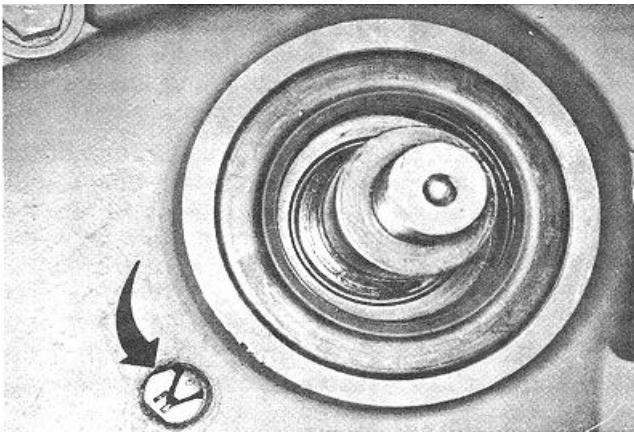

Fig. 14-45 (N114143). The Timing Marks For The Accessory Drive.
**Note:** The pipe plug in the gear cover can be removed so that you can see the timing marks on the gears. Make sure that the timing marks are aligned, Fig. 14-45. If the pipe plug has been removed, install the plug. Tighten the pipe plug to 35 to 45 ft.-lbs. [47 to 61 N•m] torque.